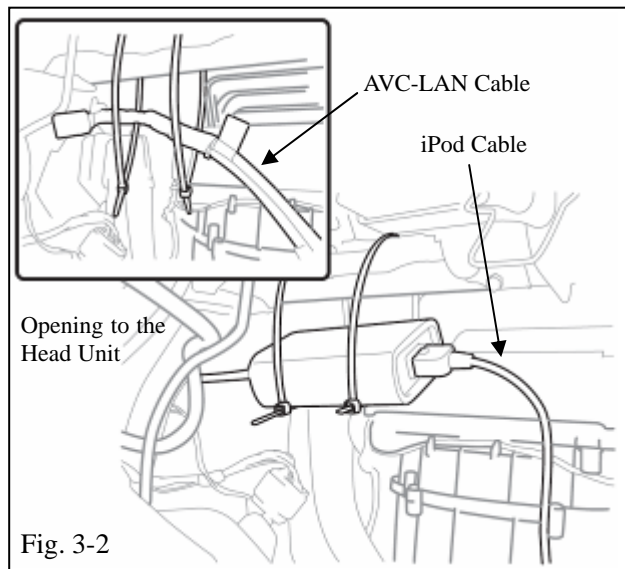

Fig. 3-2
- (d) Route the AVC-LAN cable through the 14" lock ties and the opening to the head unit. (Fig. 3-2)
- (e) Slide the interface unit through the 14" lock ties. (Fig. 3-2)